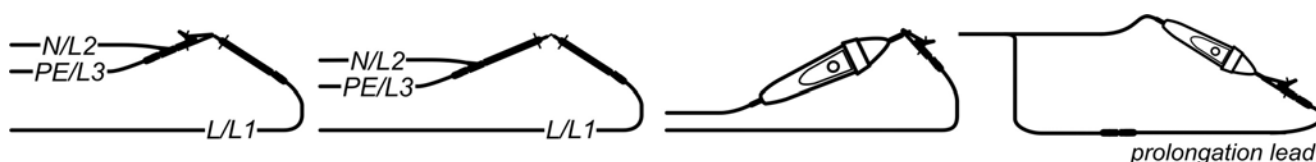

Figure 5.13: Shorted test leads
- ❑ **Connect** test cable to the instrument and short the test leads together (see Figure 5.13).